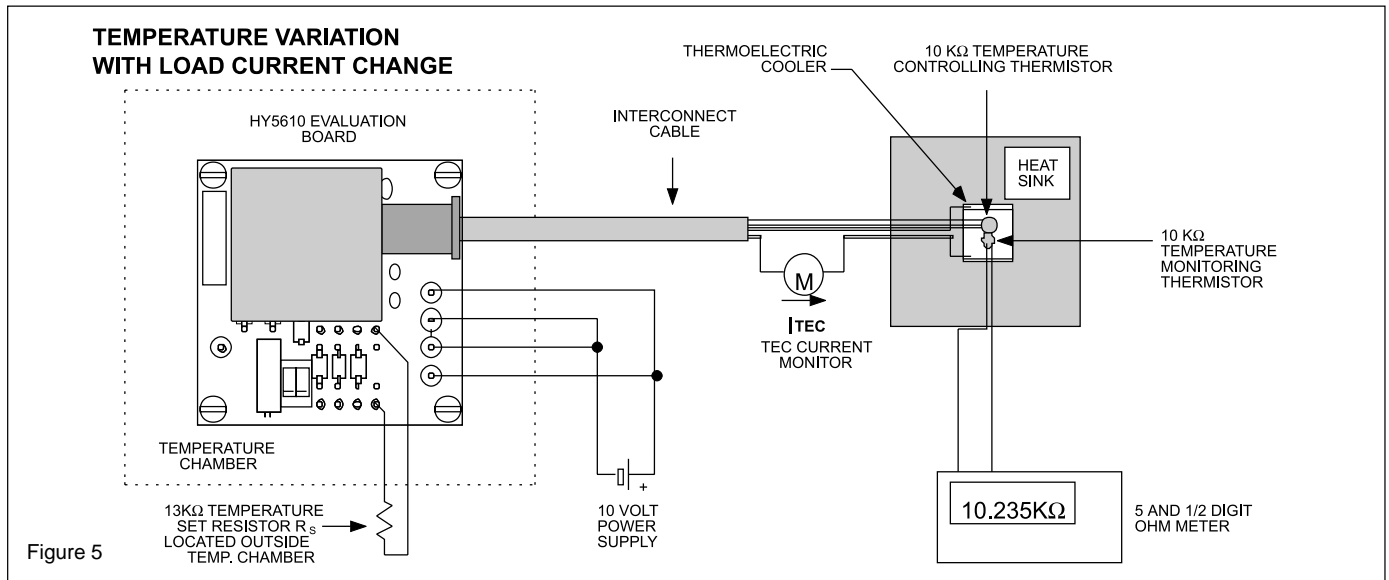

Figure 5
The temperature controlling stability of the HY5610 vs. Base Temperature* is measured using the test setup illustrated in Figure 5. The HY5610 is placed inside the temperature chamber. The thermoelectric cooler/thermistor assembly is placed outside the chamber. In addition, the 13K Ω temperature set resistor R_s is located outside the chamber to eliminate any temperature effects due to this
* Base Temperature is the temperature of the aluminum heat spreader (Base) of the HY5610. In the experiment illustrated in Figure 5, the programmed temperature of the TEC assembly and its ambient temperature are almost equal. The TEC current is therefore almost zero amperes thus eliminating any self heating effects in the HY5610. In this case, the temperature of the HY5610 is virtually equal to the temperature of the chamber. In practice, the temperature of the base of the HY5610 is a function of the TEC drive current, the HY5610 heat sink size, the air flow across the heat sink and the temperature of the surrounding air.